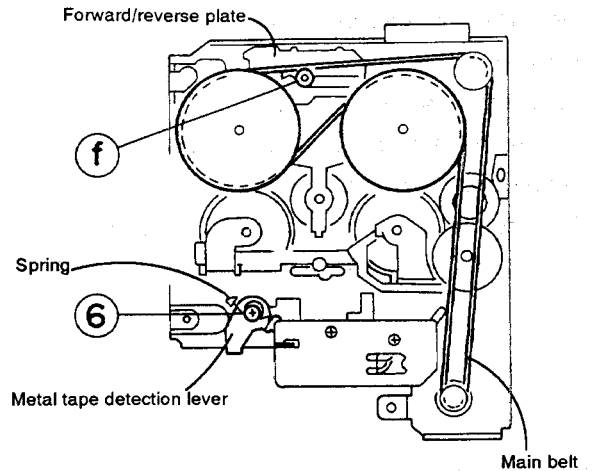

Fig. 2-18
◆ **Removing the head plate (Figs. 2-18 and 2-19)**
6. From the rear of the head plate, detach the Mylar washer ① and the washer pressing the forward/reverse plate down. (Fig. 2-18)
7. Remove the screw ⑥ fixing the metal detection lever and removal spring as shown in Fig. 2-18.
6. Disengage the main belt from the flywheel assembly. (Fig. 2-18)